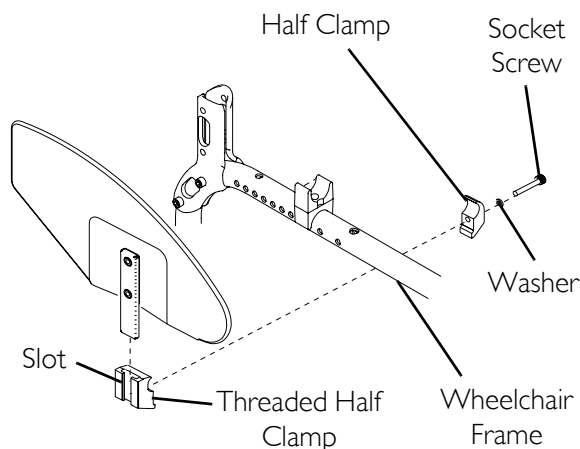

FIGURE 10.4 Installing Clothing Guards
NOTE: For this procedure, refer to FIGURE 10.4.
5. Insert the rigid clothing guard into the slot on the threaded half clamp as shown in FIGURE 10.4.